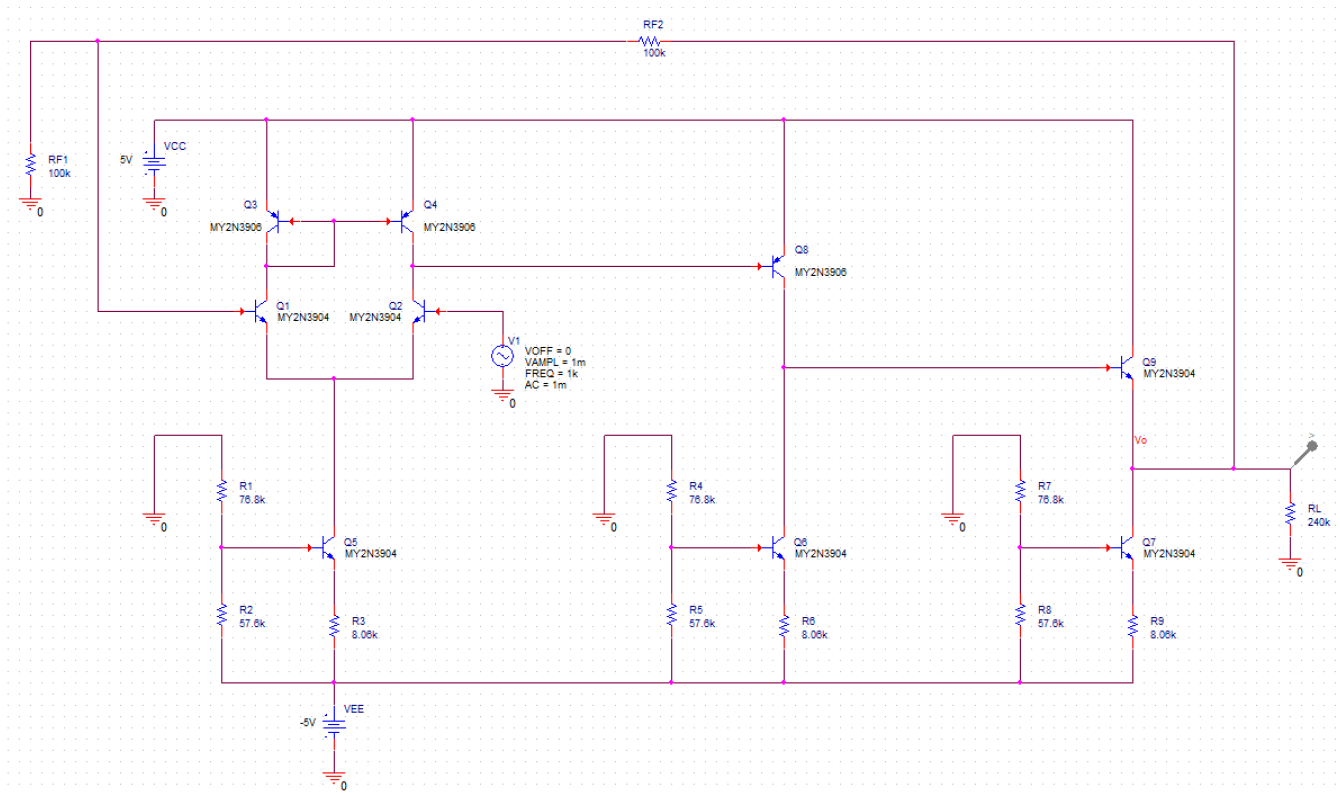

Fig. 2 Schematic diagram of the negative feedback amplifier
- 1.4 Construct the negative feedback amplifier in PSpice using the circuit diagram shown in Fig. 2, with resistance values and supply voltages specified in the figure.
- 1.12 Based on Fig. 2, construct the measurement setup, as shown in Fig. 4, for the feedback amplifier using the operational amplifier and the offset voltage for Channel 2 (W2) found in Step 1.11.
- 1.14 **Frequency Response:** Based on Fig. 2, with the same wire connections as those in Step 1.11, go to Waveforms software and, from the Supplies tab, enable the voltages $V+ = 5$ V and $V- = -5$ V, respectively. Next, open the Network Analyzer tool and press Run to see the input (Ch.1) and output (Ch.2) magnitude and output phase versus frequency characteristics. Set the start frequency = 100 Hz, stop frequency = 4 MHz, Scale = Logarithmic, and samples = 201/decade. Set the Wavegen Offset = the offset voltage found in Step 1.11, Amplitude = 1 V, and set Magnitude Units to gain(x), Top equal 3X, and Bottom equal 0 X. Also, set Channel 1 and Channel 2 Gain to 1 X and offset to zero. Then, press Single to take a screenshot of the data. Finally, select File, then Export to copy the input V_1 , output V_o magnitude, and phase response versus frequency characteristics. Uncheck the Comments, Copy to Clipboard, and Paste these data into the sheet “Step 1.14” of the Excel file “Lab 4 – Feedback Circuit.xlsx”. Replace the screenshot with yours, and make sure to capture your date and time to avoid mark deduction.
Q6. (5 Points) What kind of feedback configurations (e.g., shunt-shunt) is it for the amplifier in Fig. 2?